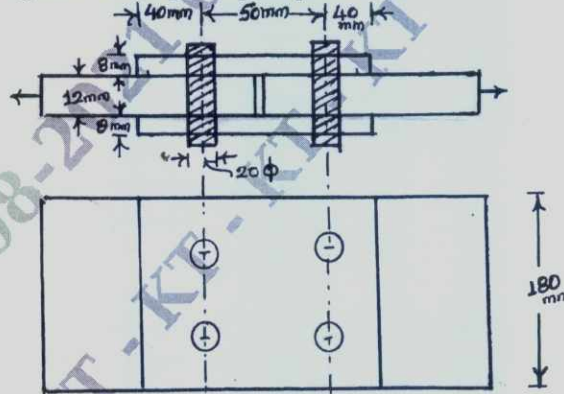

Fig.Q3(b)
- b. Find the efficiency of a butt joint shown in Fig.Q3(b). Black bolts of M20 and grade 4.6 and the plates are made of grade Fe410 [E250] are provided. (04 Marks)